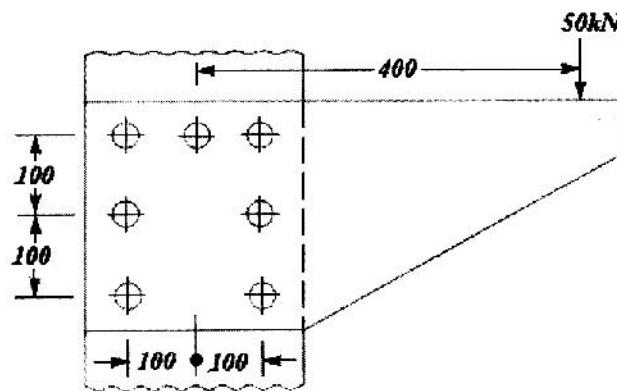

Fig 1.
b) A 25mm thick steel bracket is to be attached to a wall with the help of seven identical bolts as shown in Fig 1. Select standard bolts made of suitable material for the eccentrically loaded bolted joint application.